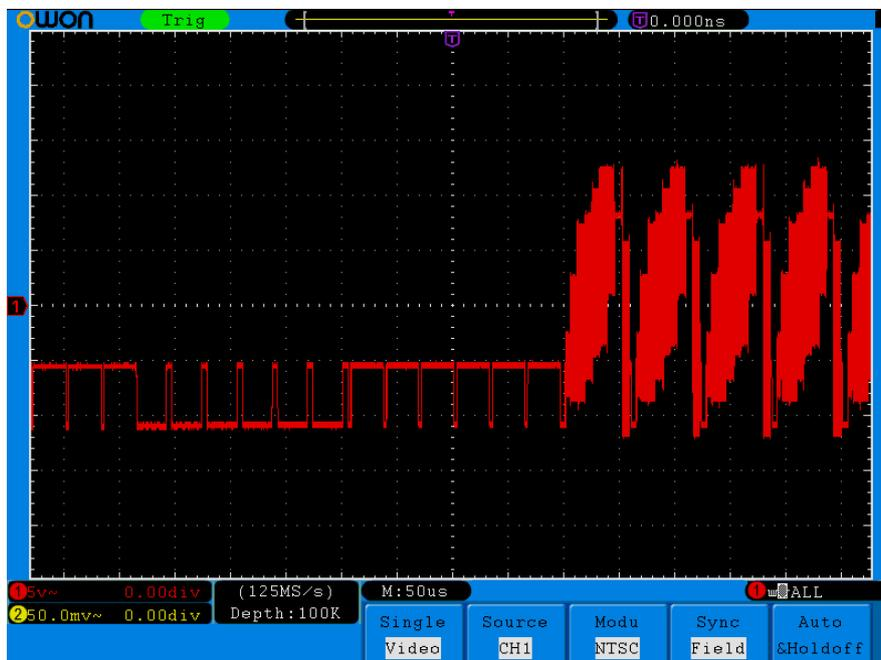

Fig.6-7 Waveform Captured from Video Field Trigger
- (1) Press the **Trigger Menu** button to display the trigger menu.
- (2) Press the **H1** button to display the trigger type menu.
- (3) Turn the **G** knob to choose **Video** as the mode.
- (4) Press the **H2** button to display the Source menu.
- (5) Press the **F1** button to choose **CH1** for Source.
- (6) Press the **H3** button to display the Modu menu.
- (7) Press the **F1** button to choose **NTSC** for the modulation.
- (8) Press the **H4** button to display the sync menu.
- (9) Press the **F2** button to choose **Field** for Sync.
- (10) Turn the **VOLTS/DIV**, **VERTICAL POSITION** and **SEC/DIV** knobs to obtain a proper waveform display (see Fig.6-7).